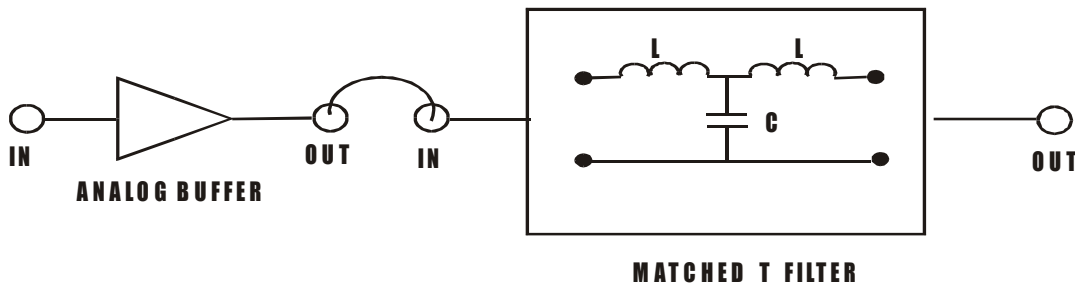

FIG. 3.10 MATCHED T FILTER
- Ref to the fig. 3.10 & carry out the following connections.